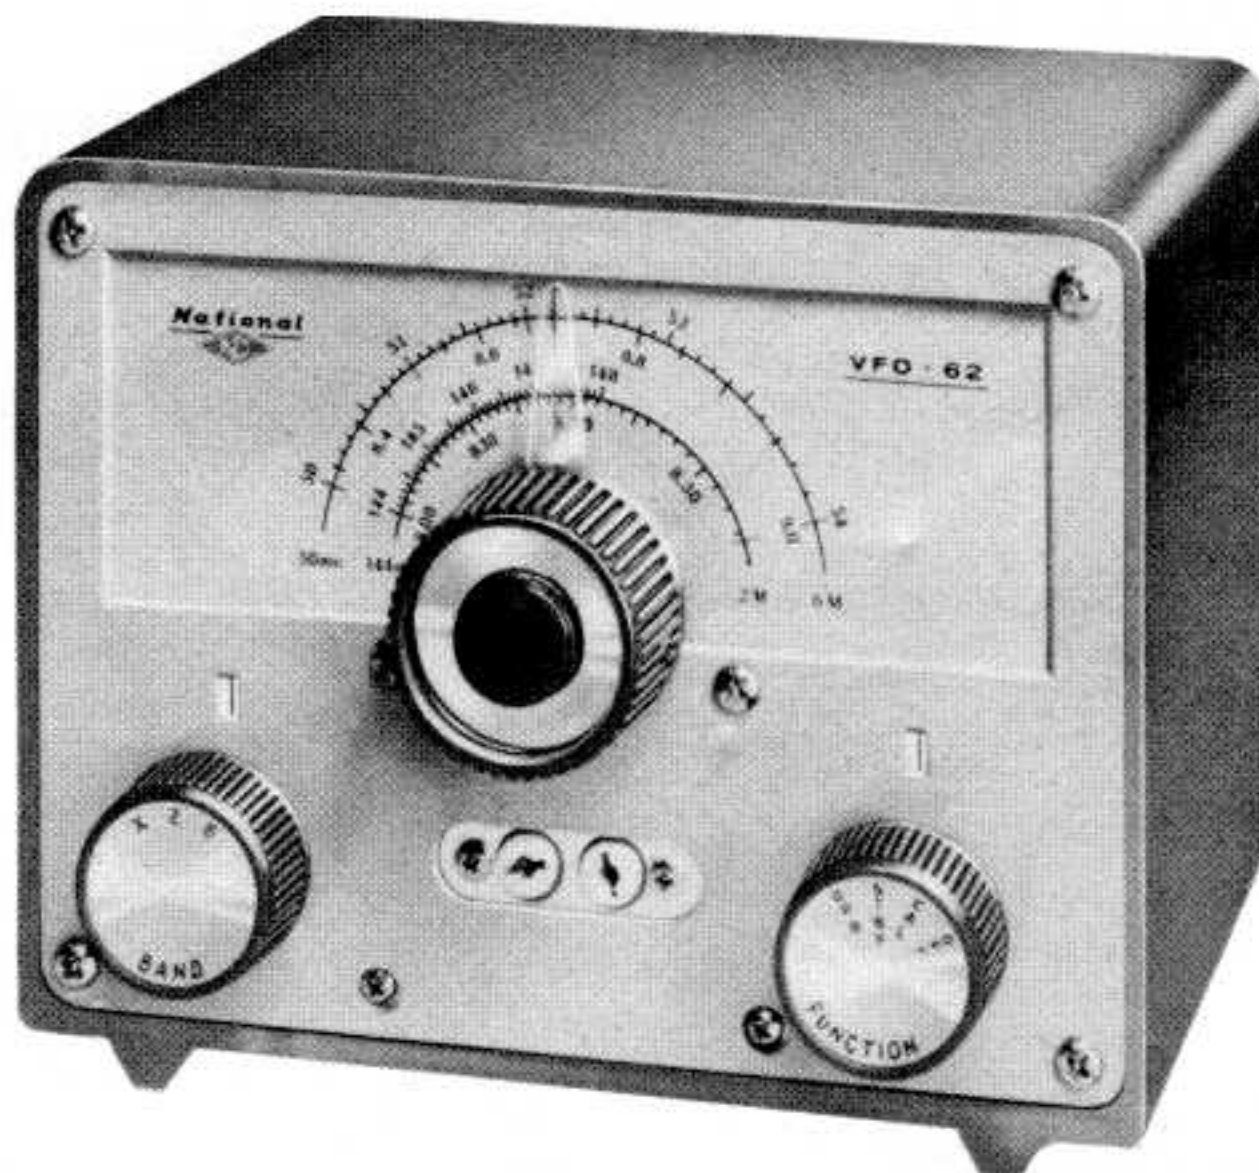

Figure 1. The National VFO-62 Variable Frequency Oscillator
1.1 General — Your National VFO-62, shown in figure 1, is a precision variable frequency oscillator for the 2- and 6-meter bands. The VFO-62 is designed to operate with most equipment using crystal oscillators operating in the 8- to 9-mc region or with most equipment using overtone oscillators in the 25- to 27-mc range.